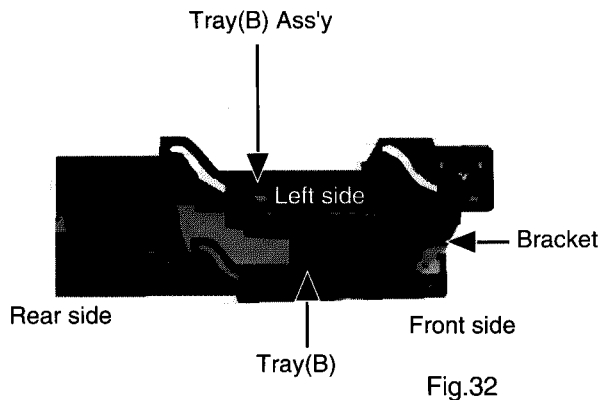

Fig.32
1. Slide the Tray(B) for front side (Fig.32).